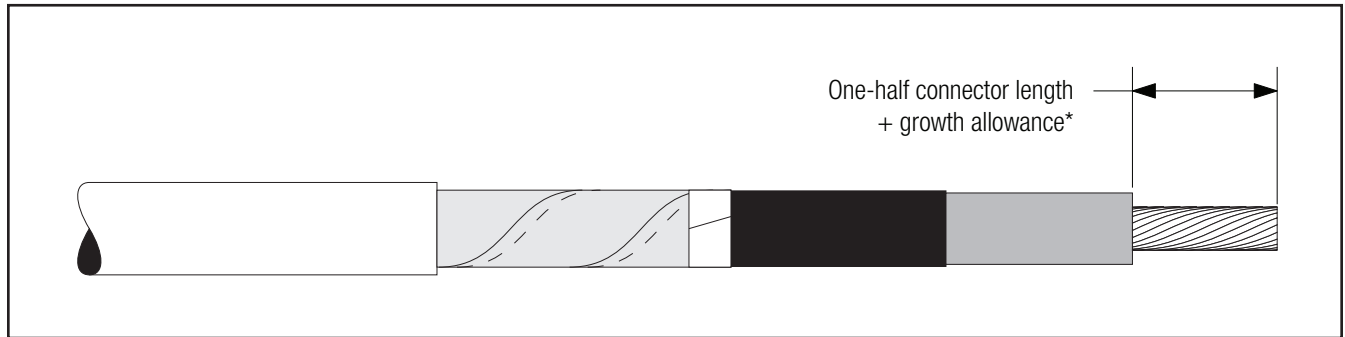

Figure 14
**4.3 If using a crimp type connector, remove cable insulation for 1/2 connector length plus an allowance\* for increases in connector length due to crimping. Insulation removal length shall not exceed 2 1/2" (64 mm) from conductor end. Do not install connector now (Figure 14).**